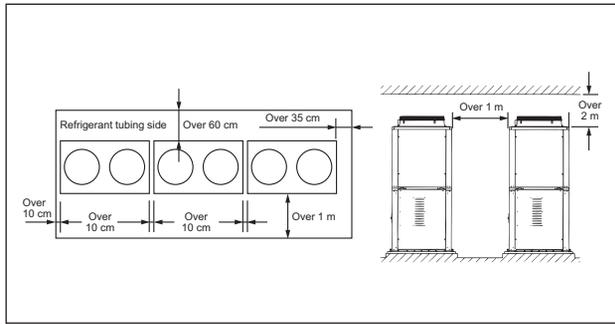

Fig. 1
- The allowances shown in Fig. 1 are for the space required for maintenance work. Be sure to provide this minimum space when selecting the location of the unit.
- In order to improve heat exchange, install the outdoor unit in a location that is well ventilated. The spaces for each part must be as shown in Figs. 1 and 2.